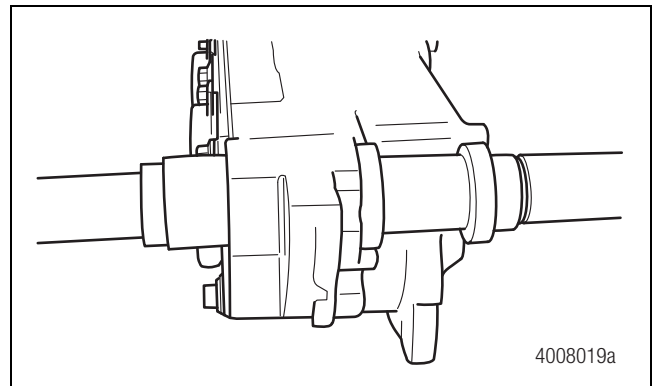

Figure 5.41
2. Place a suitable driver from Meritor tool MST 1000 onto the bushing and install the bushing into the housing bore. Figure 5.41.